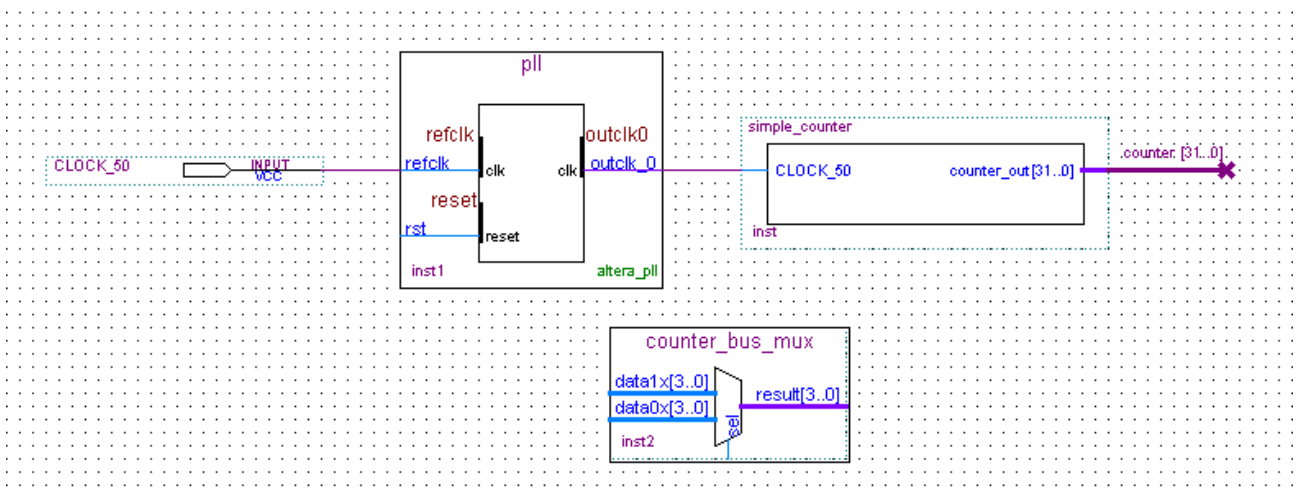

Figure 3-25 Place the lpm_mux symbol
12. Place the counter_bus_mux symbol below the existing symbols on the BDF. See **Figure 3-25**